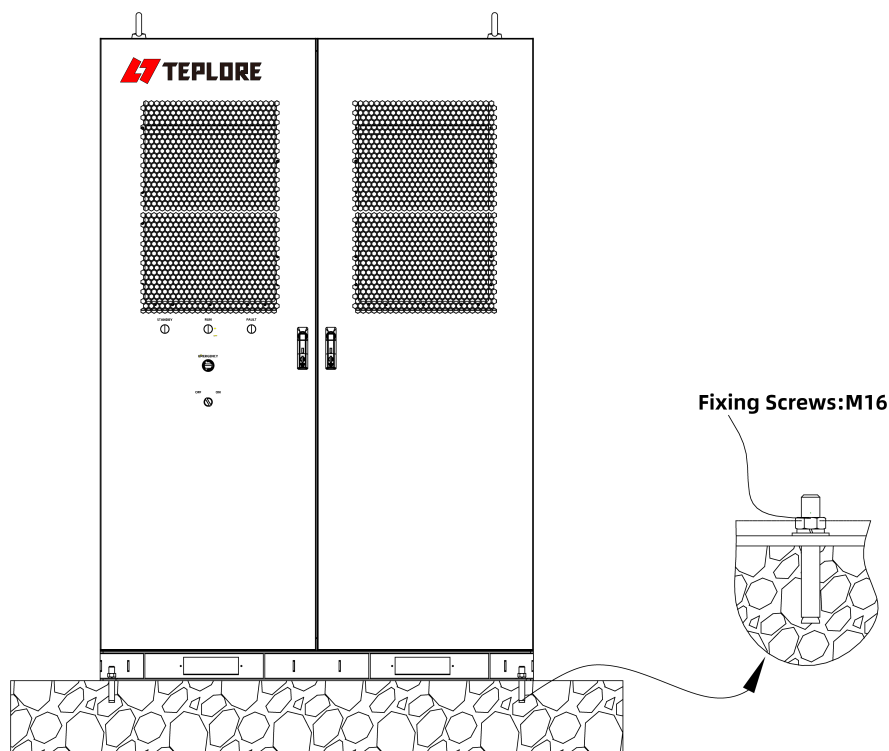

Figure 6-1: Screw the cabinet
2. Secure the equipment at all four bottom corners with M16 fasteners as shown in Figure 6-1.